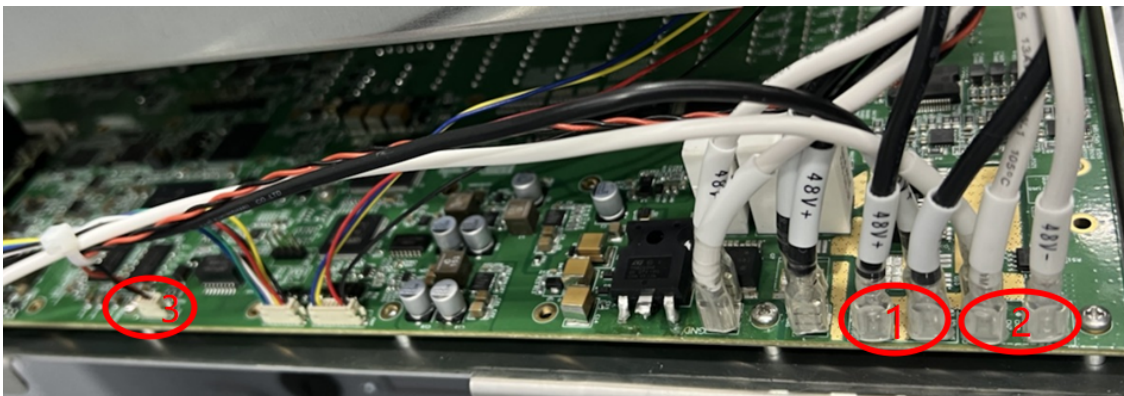

Figure 3-27 : Cable location on Safe IO
6. Disconnect the cable from the robot arm to Safe IO as shown in **Figure 3-27** :